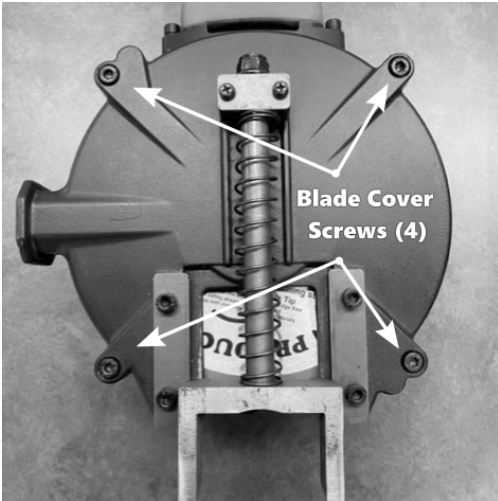

Figure 2
- Using the smaller Allen key tool, remove the four (4) screws that hold the Blade Cover to the body of the saw. See *Figure 2*
See Figures 2, 3, and 4 on the next page.